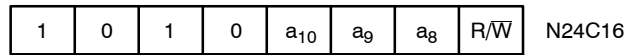

Figure 3. Slave Address Bits
The Master initiates data transfer by creating a START condition on the bus. The Master then broadcasts an 8-bit serial Slave address. For normal Read/Write operations, the first 4 bits of the Slave address are fixed at 1010 (Ah). The next 3 bits are used as programmable address bits when cascading multiple devices and/or as internal address bits. The last bit of the slave address, R/W, specifies whether a Read (1) or Write (0) operation is to be performed. The 3 address space extension bits are assigned as illustrated in Figure 3. a_{10} , a_9 and a_8 are internal address bits.